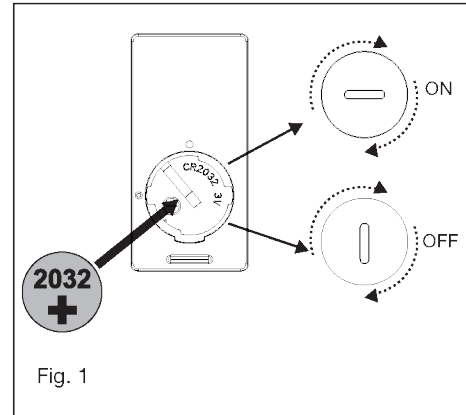

Fig. 1
- 1 Insert the receiver into the ceiling mounting bracket with the flat side of the receiver facing the ceiling. (Fig. 1) For best performance, make sure the Black Antenna, on the end of the receiver, remains extended and not tangled with any of the electrical wires.
- 1 Select a desired location. Use the wall plate to mark the location of the mounting holes. Plastic wall anchors or mounting screws are needed for this application. (Fig. 1)
Remove the panel from the transmitter and then install one 2032 battery (included). You need to use a coin to open or close the battery cover. To prevent damage to transmitter, remove the battery if not use for long periods of time (Fig. 1)